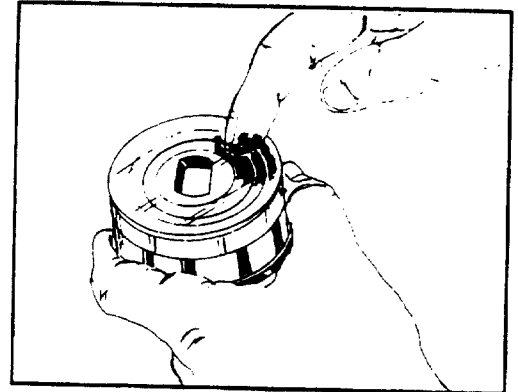

FIGURE 72.
25. Inspect the exposed face of the drive plate (26) making sure it is clean and lint free. Apply a small amount of clean grease on the drive plate. Place the "metering package," drive plate side first, into the metering ring (17). Revolve the input shaft (33) or metering package until the hole in the drive plate (26) engages the end of the input shaft and the drive plate is seated on the thrust bearing (28). When properly seated, the metering package will be below the surface of the metering ring. See figures 72 and 73.